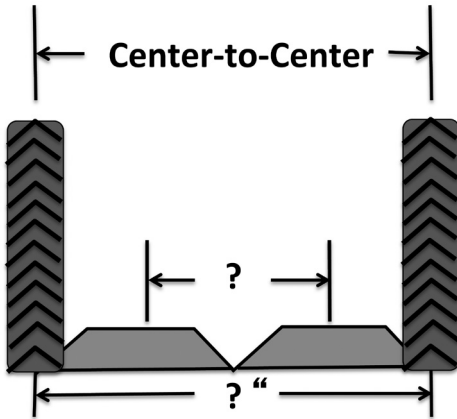

Figure 1
*Choosing the proper bed configuration/row spacing for your farm is one of the most important decisions you will make as a beginning farmer. This decision is often dictated by the wheel spacing on your tractor, depending on the tractor or tractors you use in your operation (see Figure 1, below).*